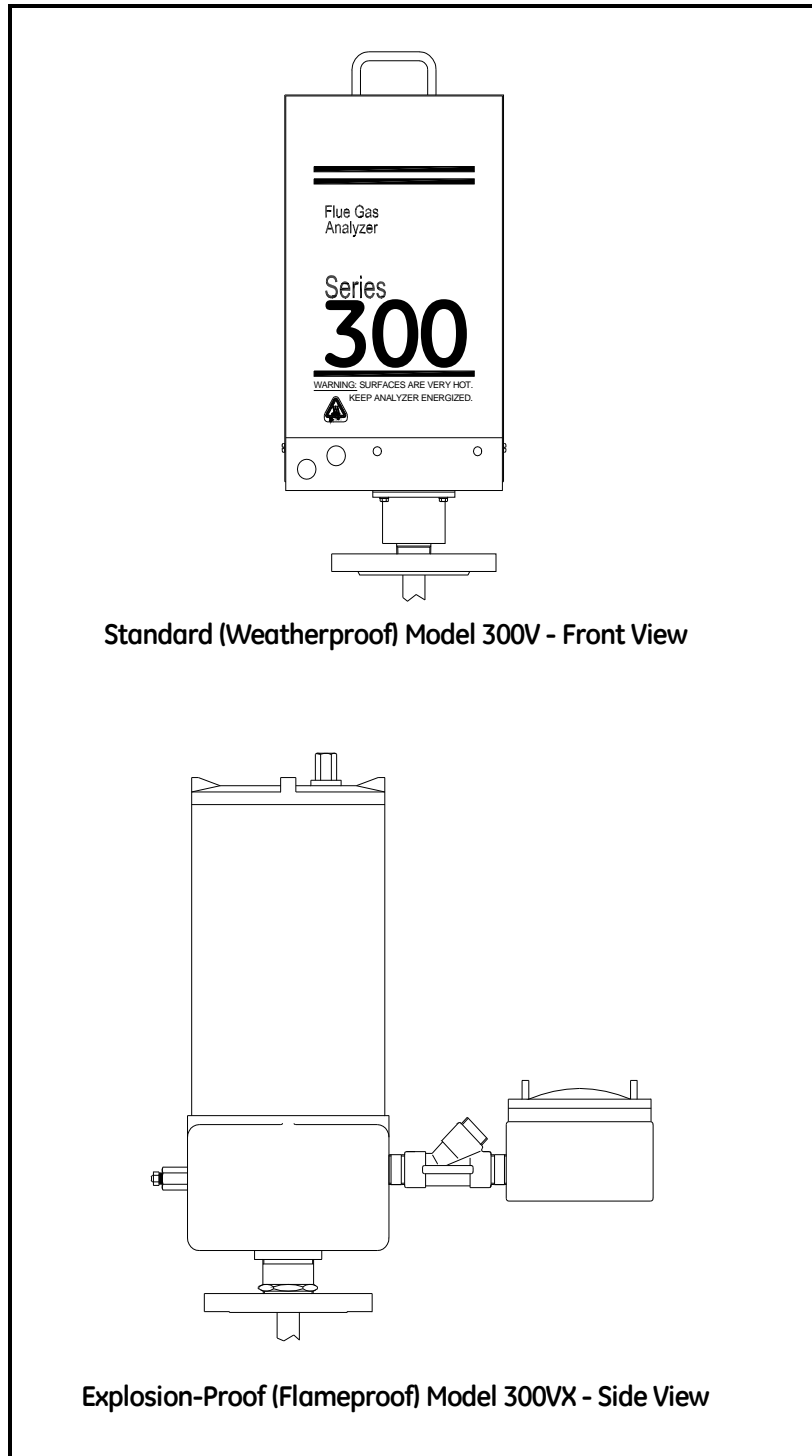

Figure 1: Main Analyzer Unit
The FGA 300V(X) Vertical Flue Gas Analyzer is available in both the *standard (weatherproof) FGA 300V* and the optional *explosion-proof (flameproof) FGA 300VX*. Physically, the FGA 300V(X) standard and explosion-proof versions look very different from each other. However, the internal components and operation are the same for both versions. See Figure 1 on page 2 for illustrations of the standard and explosion-proof models of the main analyzer unit.